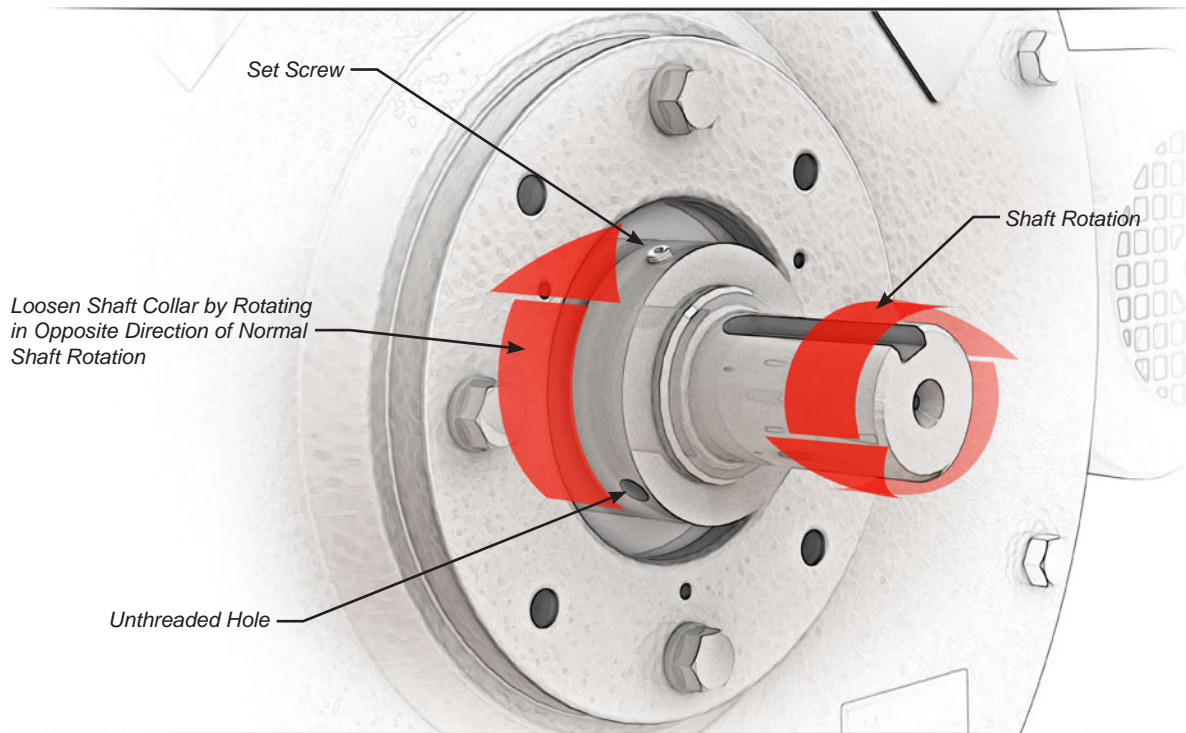

FIGURE 9.2
- Disengage bearing lock collar from bearing by turning it using a punch and hammer. Loosen by rotating the collar in the direction opposite of normal shaft rotation (Figure 9.2).
7. Disengage bearing lock collar from bearing by turning it using a punch and hammer. Loosen by rotating the collar in the direction opposite of normal shaft rotation (Figure 9.2).